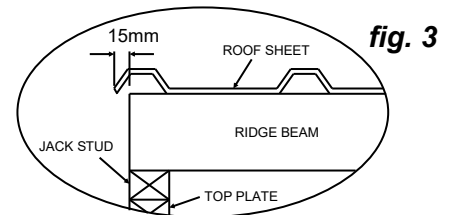

fig. 3
- Position the first Roof Sheet so that the top of the sheet is at the centre of the Ridge Beam and the side of the sheet over hangs the end of the Ridge Beam (fig .3). Using 1 x 50mm Clout, pre-drill and nail through the rib into the top corner. Repeat above and nail the lower corner ensuring 15mm overhang.